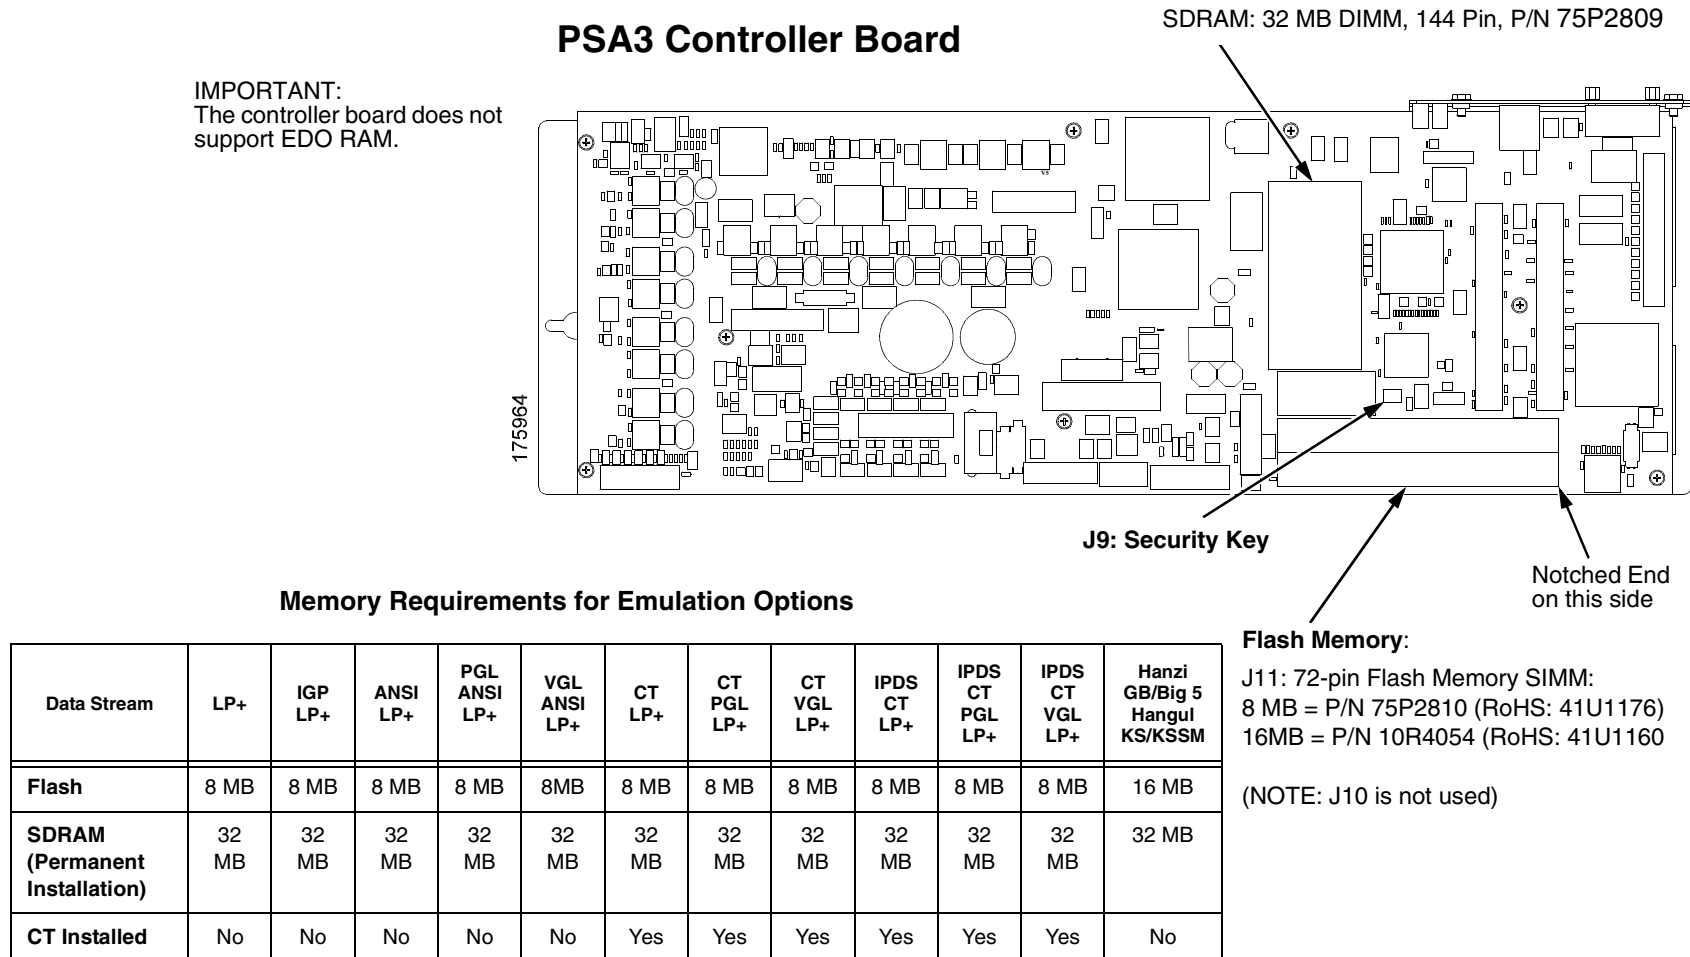

Figure 18. This figure shows the locations of Memory Modules and Security Key on the PSA3 controller board.
5. To remove the flash SIMM or SDRAM DIMM, gently open the side locks, angle the memory module upward, and remove it from the socket. (See Figure 18, page 359.)
6. If you need to remove the security key, gently lift the locking tab on the top side of controller board connector J9 enough to release the security key, then lift and remove the security key. (See Figure 18.)
2. If you removed the security key, position it on controller board connector J9 so that the lock indentation is on the same side as the locking tab on connector J9. Gently press the security key down onto the pins until the locking tab engages the lock indentation and locks the key in place. (See Figure 18.)
3. Insert the memory module at a 45 degree angle into the correct socket (see Figure 18) on the controller board:
- a. Insert the flash SIMM in socket J11 on the controller board at a 45 degree angle. Position the flash SIMM with the notched end toward the right side of the controller board. Press the SIMM gently into the socket until the edge connectors are seated, then press the SIMM downward until the side latches lock the SIMM in place. (See Figure 18, page 359.)
- b. Position the SDRAM DIMM in socket J14 with the component side upward. Press the DIMM gently into the socket until the edge connectors are seated, then press the DIMM downward until the side latches lock it in place. (See Figure 18, page 359.)